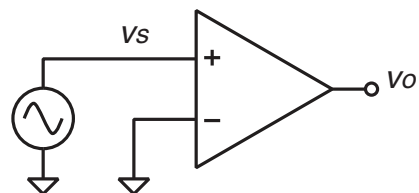

Figure 2: An opamp with a single-ended input.
4. For Figure 2, if the opamp input is decomposed into differential and common-mode components, they can be expressed as: